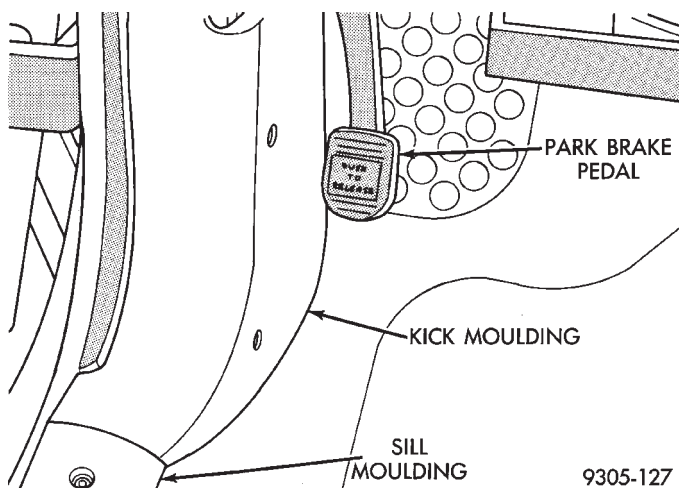

Fig. 107 Sill Molding And Kick Molding
(1) Remove drivers seat assembly from vehicle. Refer to group 23 Body in this service manual for required seat, removal procedure.
(2) Remove shift knob from floor shifter. Shift knob is removed by removing 3/32 in. allen head set screw located on drivers side of shift knob and pulling straight up on shift knob.
(3) Remove center console cover from vehicle. Refer to group 23 Body in this service manual for required procedure to remove center console.
(4) Remove drivers side door opening sill molding. Remove drivers side cowl kick molding to expose park brake pedal mechanism (Fig. 107).
(11) Install drivers side cowl kick molding (Fig. 107). Install drivers side door opening sill molding (Fig. 107).
(12) Install upper center console cover assembly back in vehicle. Refer to group 23 Body in this service manual for required procedure to install upper center console.